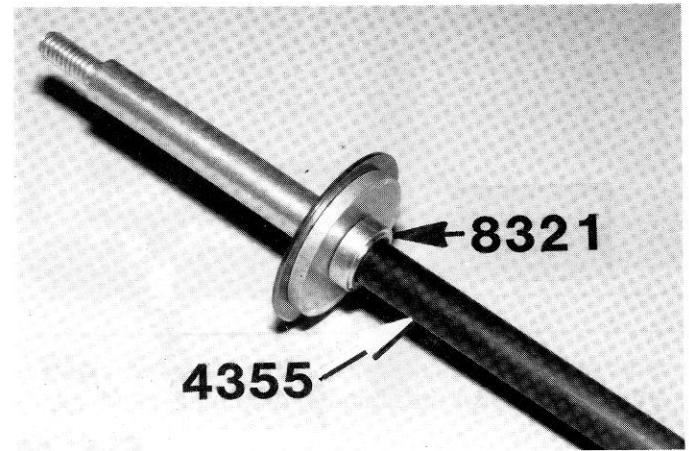

Fig. 44
□ **Fig. 44**— Slip one of the #8321 axle spacers onto the #4355 axle so that the side of the spacer that has a small step on it will be facing the ball bearing.
□ **Figs. 44, 45 & 46**— We're ready to build the rear axle assembly. Slip one of the #6625 differential drive rings onto the #4355 axle, as shown in Fig. 44. *Racer's Tip:* The Expert Class racers will put a drop of Super Glue, like ZAP or Hot Stuff, where the arrow is pointing to glue the drive ring to the aluminum hub.